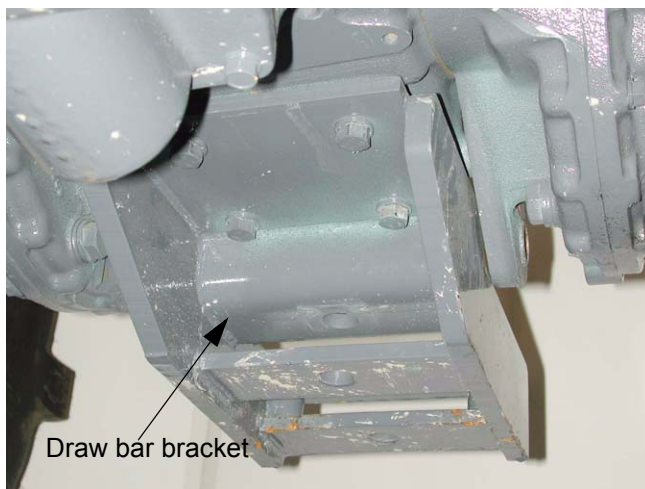

Figure 1.21
- 1.21. Remove the four bolts that hold the draw bar bracket to the bottom of the transmission housing using a 19mm wrench. See Figure 1.21.